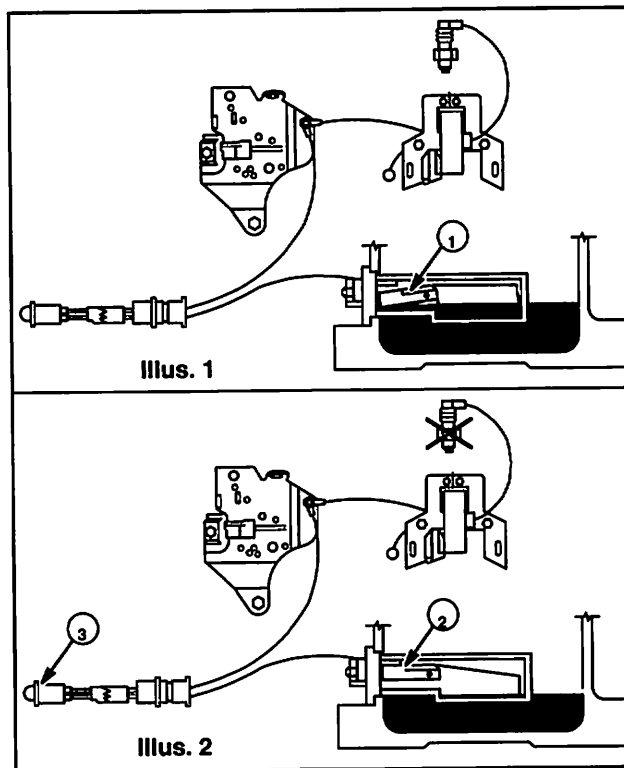
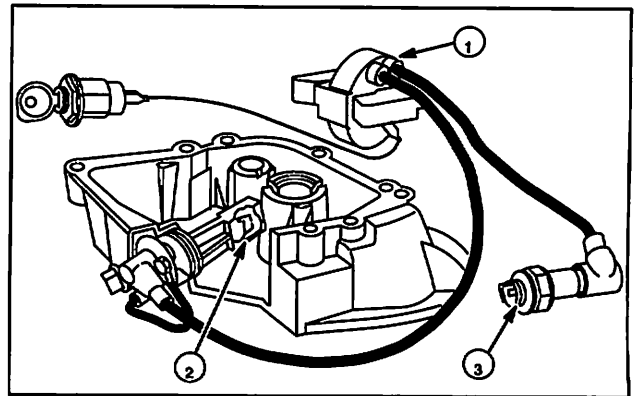

Fig. 14
Fig. 15
Two types of Oil Gard® have been used; float operated type, Fig. 14 and spark gap type, Fig. 15.
The engine cannot be restarted until the oil level is restored to correct level opening switch contacts, Fig. 14.
When oil level drops to the point where the spark gap is exposed to air in the crankcase, the resistance of the gap is lower than the spark plug (3) gap and spark will fire across the Oil Gard® sensor instead of the spark plug, stopping the engine. The engine cannot be restarted until the oil level is returned to normal, Fig. 15.